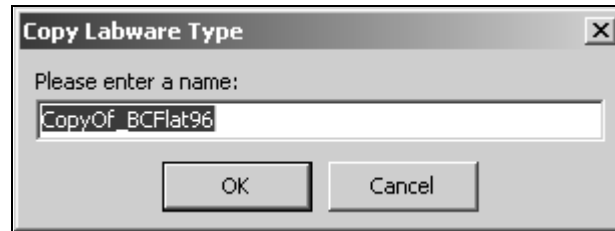

Figure 3-3. Copy Labware Type
- Click on BCFlat96 and choose **Copy**. Copy Labware Type appears (Figure 3-3).